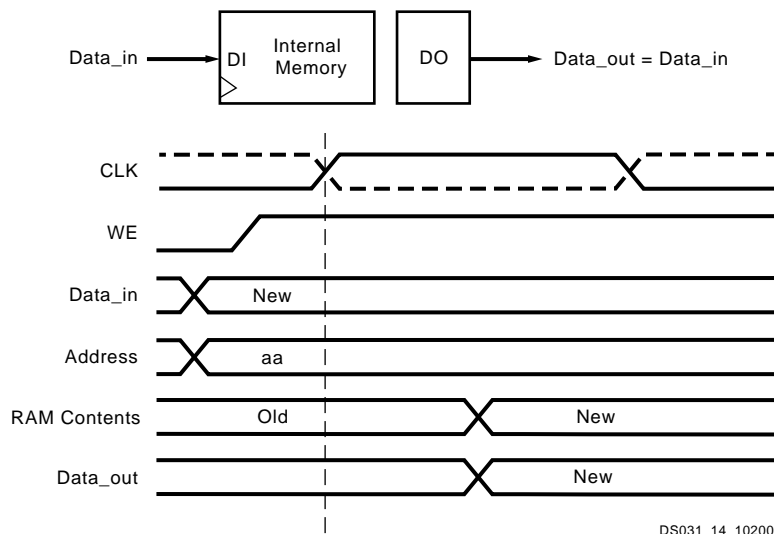

Figure 29: WRITE_FIRST Mode
The "WRITE_FIRST" option is a transparent mode. The same clock edge that writes the data input (DI) into the memory also transfers DI into the output registers DO as shown in **Figure 29**.